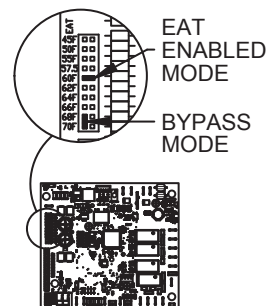

Figure 1
- a. **For EDSM and EDSM/TP control systems**, if the ambient temperature is at or above the Entering Air Thermostat (EAT) setpoint, note the setpoint position. Pull the jumper off the temperature setpoint (Normal Mode) and reinstall it sideways on the terminal block (Bypass Mode) as shown in Figure 1. Refer to the Individual Component Description section for additional information.